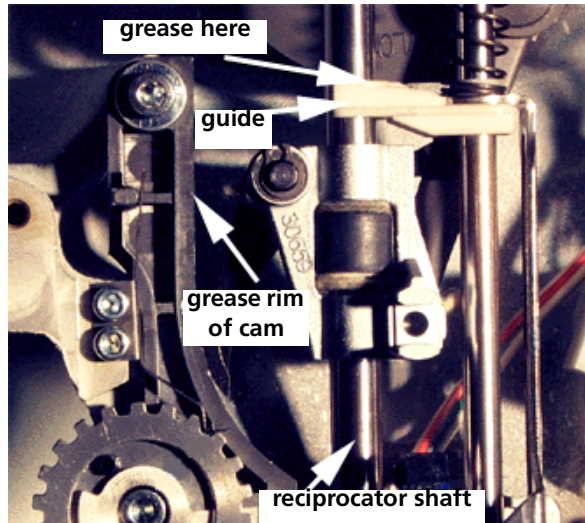

Figure 7-22
7. Please note that *Figure 7-22* reflects a front view without a needlecase, while you will be looking at the machine from the left side of the needlecase.